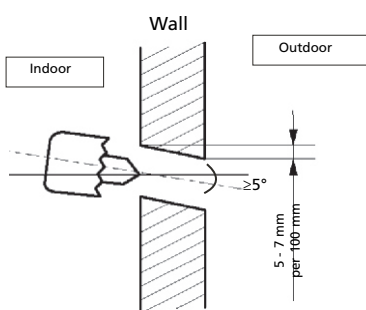

Fig. 5
1. Determine hole positions according to the diagram detailed in Fig.5. drill one (1) hole (≥ 85 mm for SC30xx / ≥ 65 mm for S30xx) slanting slightly downwards to outdoor side, this will prevent water to come indoors.